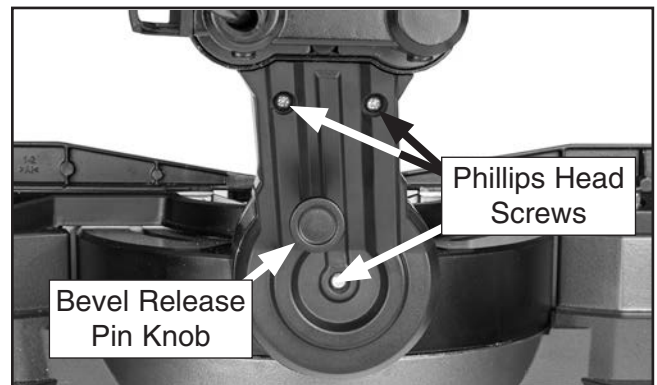

Figure 18. Rear cover hardware.
3. Remove bevel release pin knob from screw, (3) M5-.8 x 12 Phillips head screws, and rear cover (see **Figure 18**).